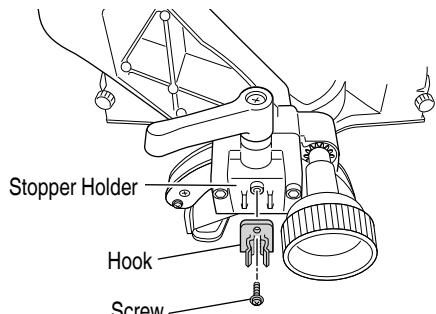

Fig. 53
- (1) Attaching the hook assembly (Fig. 53)